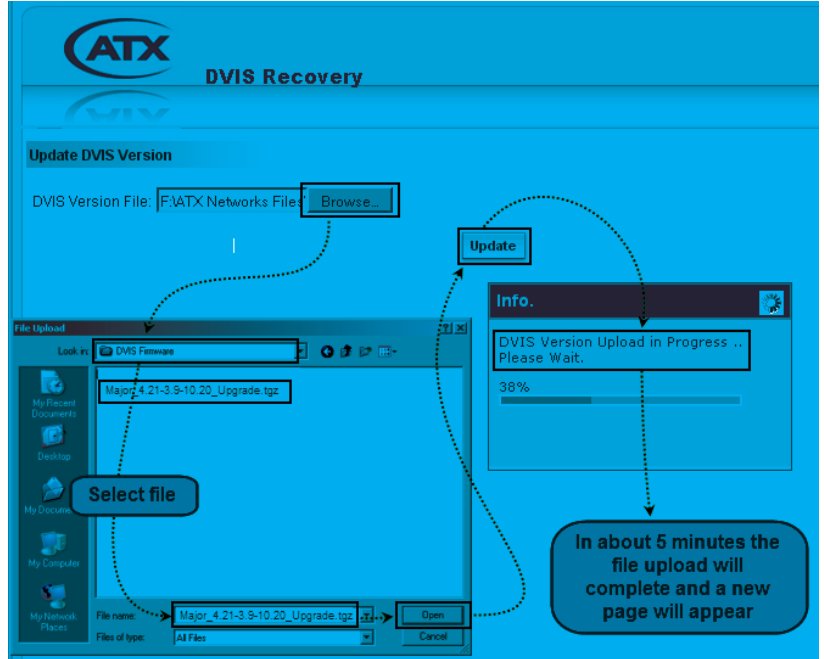

Figure 12-8: Restore System Firmware
3. Upon validation of the login and password, the 'DVIS Recovery' page appears, see Figure 12-8.